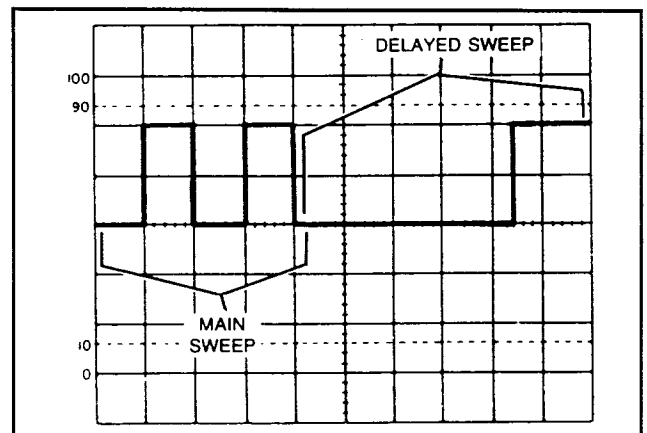

Fig. 6. **MIX SWEEP MODE** Display.
(Refer to Fig. 6)
2. Set the **SWEEP MODE** switch to the **MIX** position. The display will show the main sweep on the left portion (representing the **MAIN TIME BASE** control setting) and the delayed sweep on the right portion (representing the **DELAY TIME BASE** control setting). The **MAIN TIME BASE** portion of the trace will be brighter than the delayed time base portion. Fig. 6 shows a typical display for the **MIX** display mode.